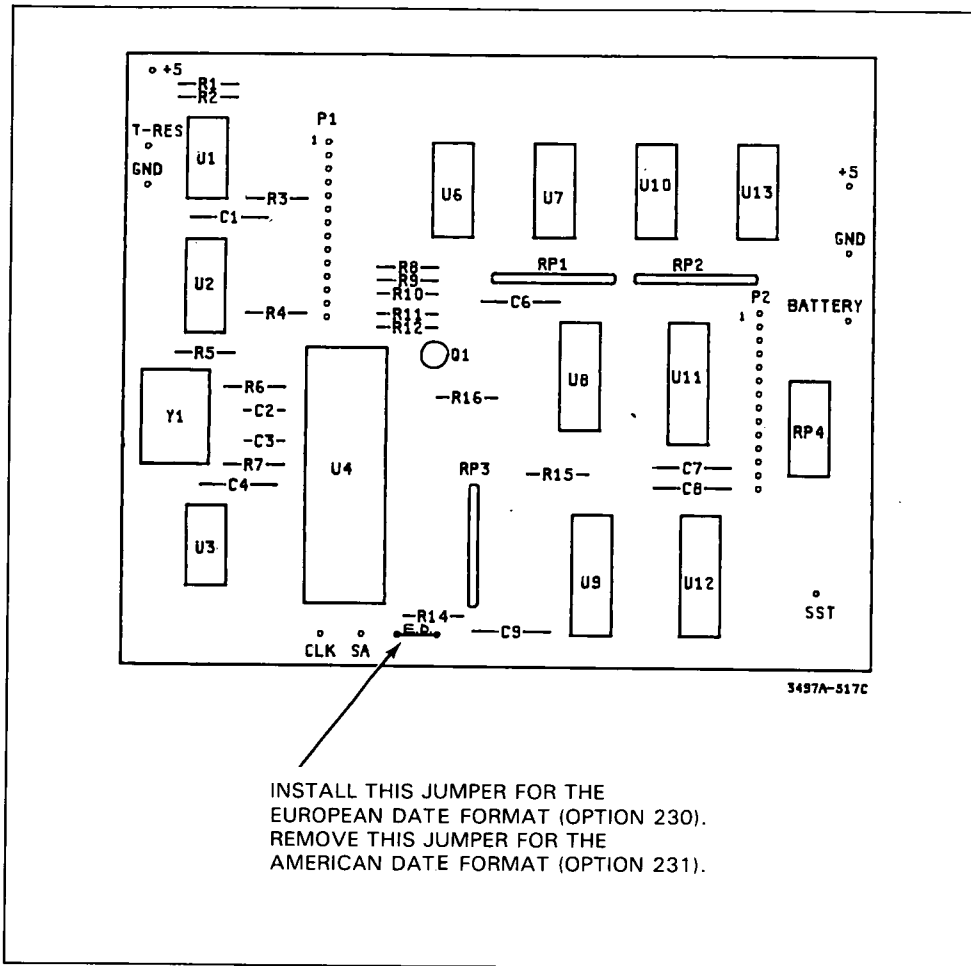

Figure 2-20. Clock Configuration Jumper
- c. Refer to Figure 2-20 and locate the clock configuration jumper on the timer/pacer board. If the American date format (Option 230, M:D:H:M:S) is desired, remove the jumper. If the European date format (Option 231, D:M:H:M:S) is desired, install and solder the jumper into the appropriate holes.